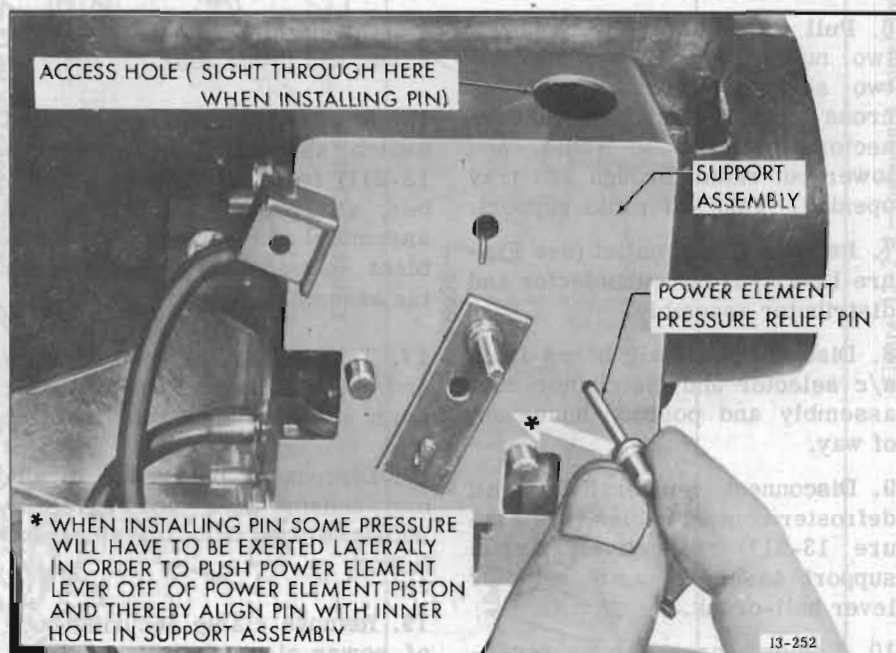

Figure 13-210—Installing Pressure Relief into Support Assembly (49000 Series)
2. Install pressure relief pin into support assembly to hold power element lever off the power element piston (see Figure 13-210).
NOTE: Installation of pin will be facilitated if relationship of pin to inside hole is observed through access hole in rear of support (see Figure 13-210).
1. Install pressure relief pin into the support assembly to hold the power element lever off the power element piston (see Figure 13-210).